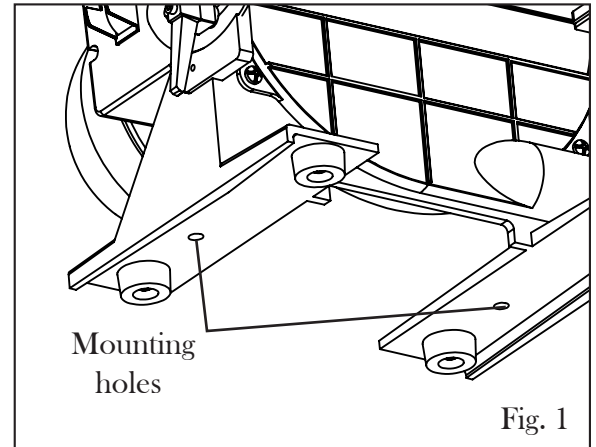

Fig. 1
2. A mounting hole is located on each leg towards the rear of the sander body (Fig. 1). Insert a pencil through the two mounting holes and mark the hole locations on the workbench.